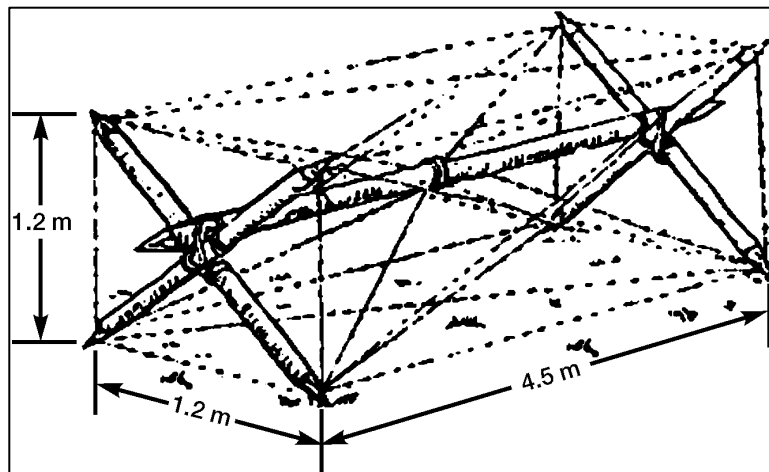

Figure 052-195-3066-6. Knife Rest
(1) Ensure that a knife rest is prepared 3 to 5 meters long (figure 052-195-3066-6). Ensure—